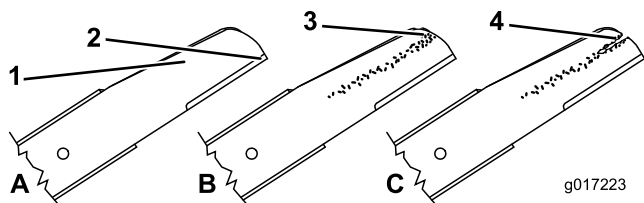

Figure 27
1. Inspect the cutting edges (Figure 27). If the edges are not sharp or have nicks, remove the blades and have them sharpened or replace them.
2. Inspect the blades themselves, especially the curved area (Figure 27). If you notice any